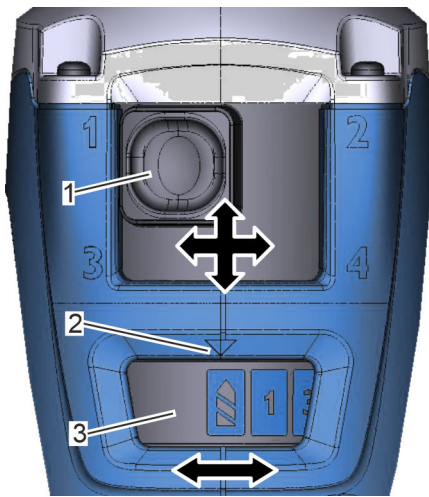

Fig. 25: Gear setting and setting levels
3. Set gear (Fig. 25/1) 1 to 4 (manual gearbox setting).
4. Set setting level (Fig. 25/3) 1 to 15 (electronic setting).